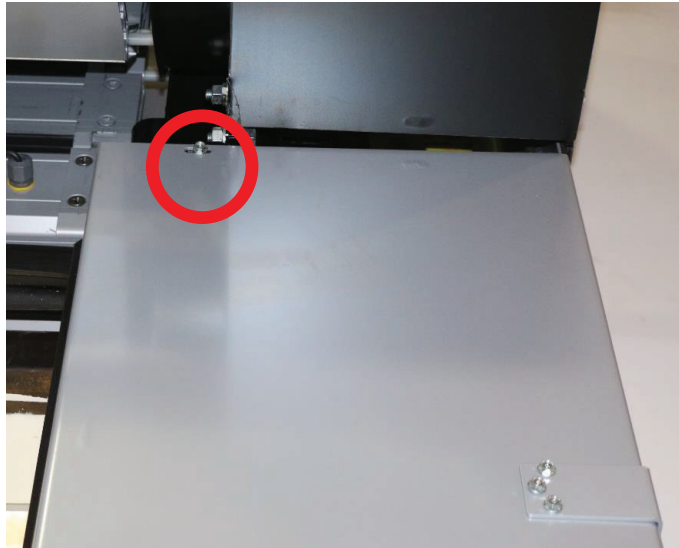

FIG 1.0
1. Remove the bolts that hold the guide cover in place. Next, remove the bolts from the hinges. Set bolts aside in a safe place. Remove the guide cover and discard. Install new guide cover onto the hinges by re-installing the bolts, as shown in **FIG 1.0**.
Close or re-attach the guide covers, as shown in **FIG 1.0**.